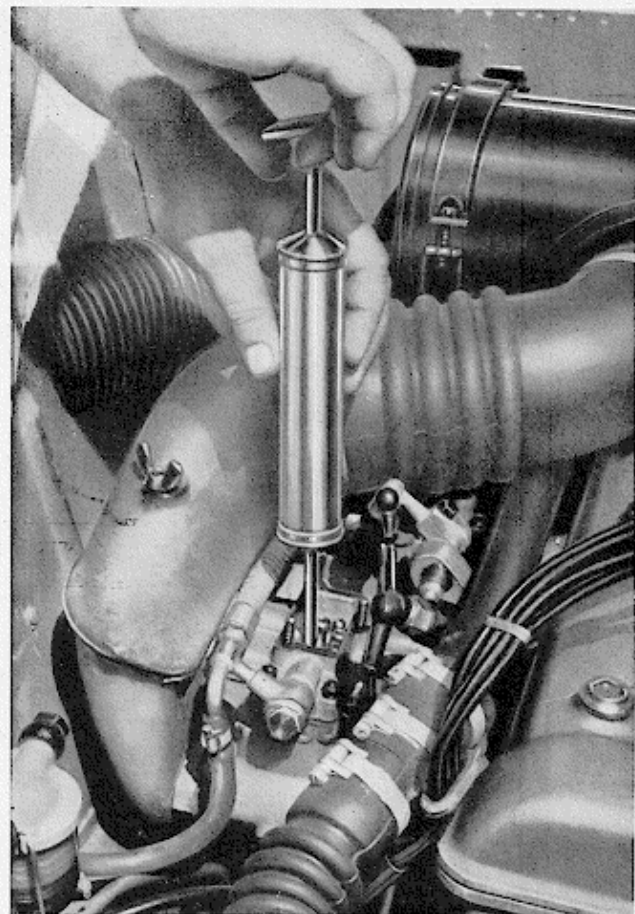

Fig. 141 - Drawing of petrol from the main jet bowl when checking the level in the bowl
- 4) by means of a syringe remove the petrol from the main jet bowl (Fig. 141) so as to make a definite reduction in level;